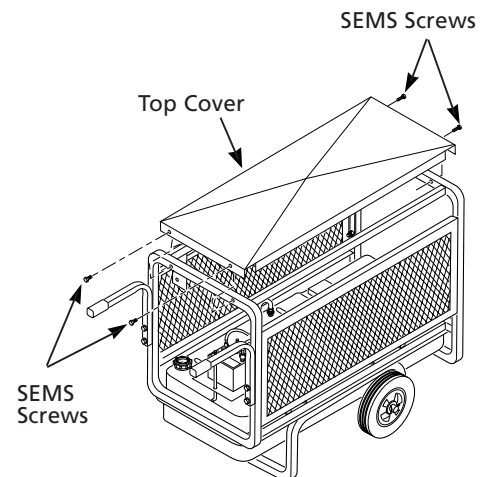

Figure 12 – Attaching Top Cover to Roll Cage
2. Place top cover on top of generator roll cage with notch on control panel side. Use four #8 sems screws provided to attach cover to roll cage (See Figure 12).